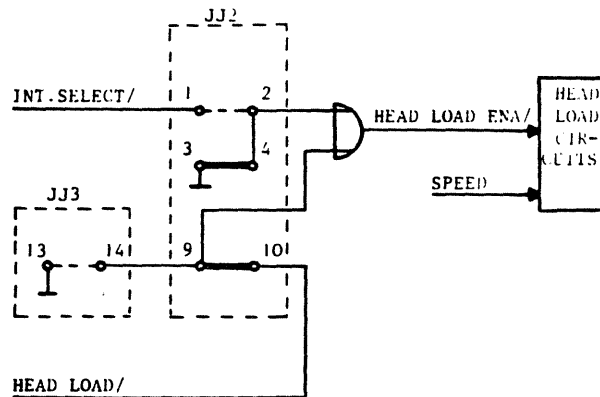

FIGURE 2 - 11 . RADIAL HEAD LOAD OPTION
**Door Lock Latch Option (Fig. 2 - 12)**